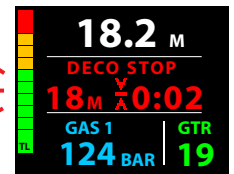

Fig. 52 - DV2 MAIN
- > Once within 10 FT (3 M) of and below the required Stop Depth, the full Stop icon (Arrows with Stop Bar) will be displayed solid (Fig. 52).